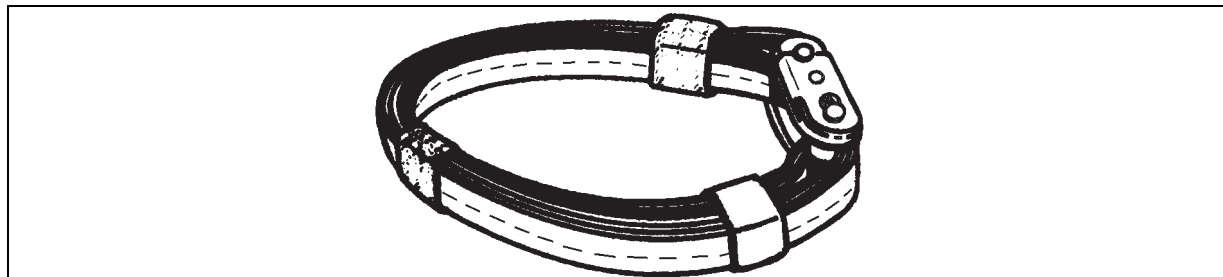
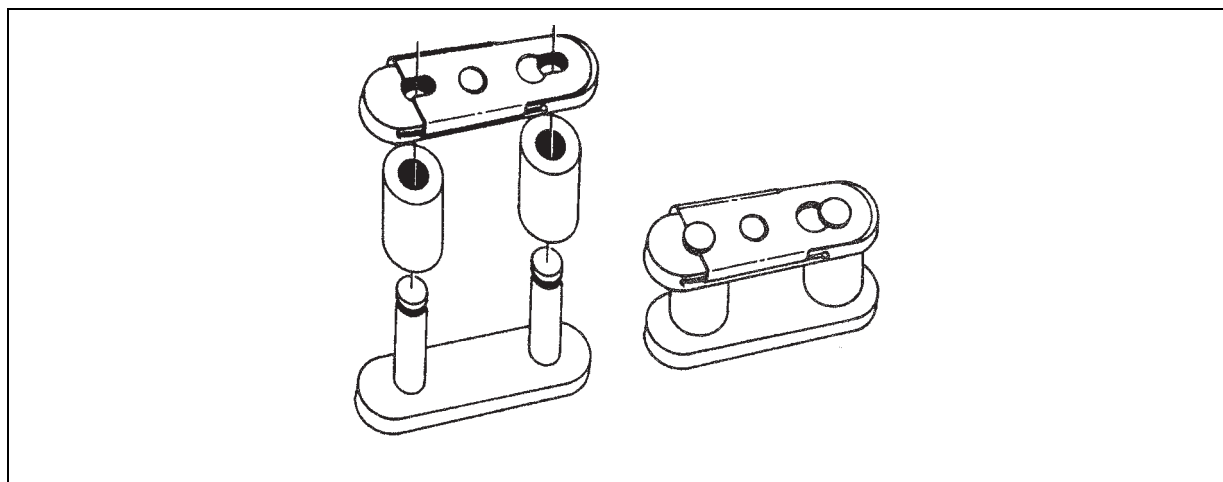
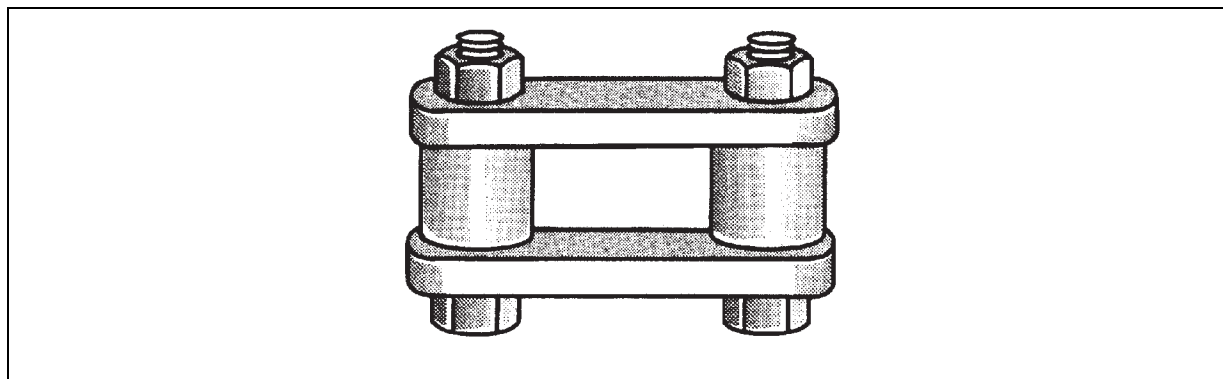

Figure 6-39. Three-Foot Apex Ring
Figure 6-40. Type IV Connector Link
Figure 6-41. Two Point Link
- The apex ring (figure 6-39) may be used to connect the apex fitting of a sling set to the cargo hook of a UH-1H helicopter. The apex ring is made by joining the two ends of a 3-foot sling with either a Type IV connector link (figure 6-40) or a two-point link assembly (figure 6-41). An apex ring made from a two-loop Type XXVI nylon sling has a maximum capacity of 10,000 pounds.